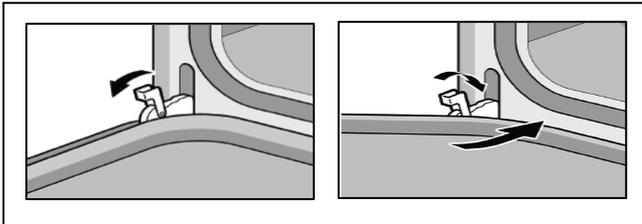

Figure 9 Opening (left) and closing (right) door hinges
- ✓ Position hinges properly (see Figure 9).